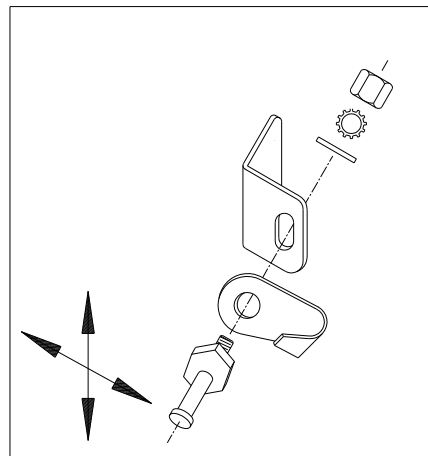

Fig. 15.2 (Striker bolt)
15.2 Per fig. 15.2, the large striker bolt and nut can be loosened and reset higher or lower or in or out for better engagement in the door latch assembly if necessary. Use two 19mm open-end wrenches. Note: finger guard to end up being centered and facing inward.